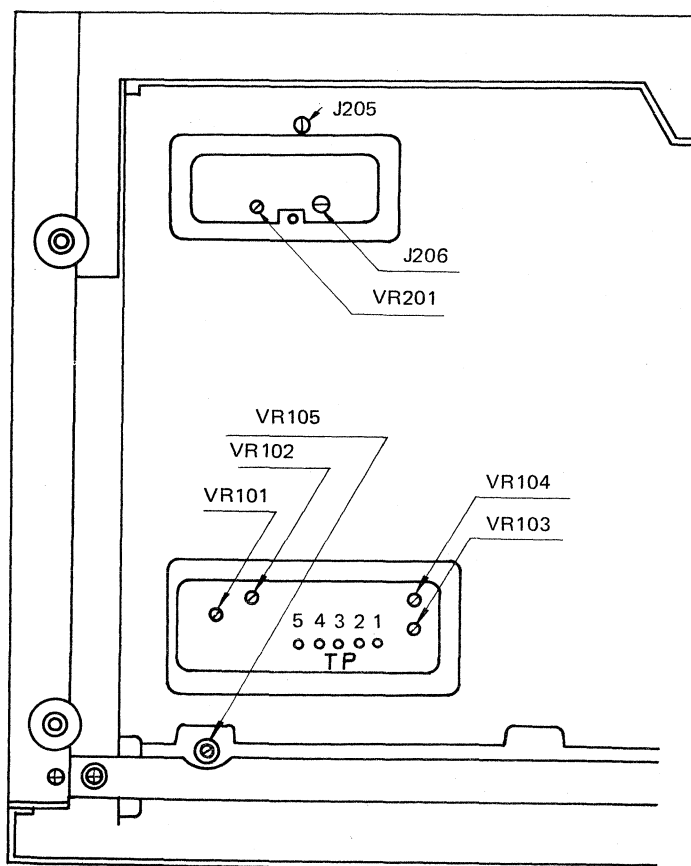

Figure 18
- (1) Set digital volt meter to DC, 20V range, and connect its $\oplus$ terminal to J205 and $\ominus$ terminal to J206. (See Fig. 18)
- (1) The adjustment of the pin is to be made with tonearm at the rest position.
- (2) Lead-in position moves gradually inward by rotating the eccentric pin (A) in a clockwise direction.
4. Adjustment of Random Programming (See Fig. 18.)
5. Adjustment of sensor to detect designated and unmodulated groove to start play in program mode. (See Fig. 18.)